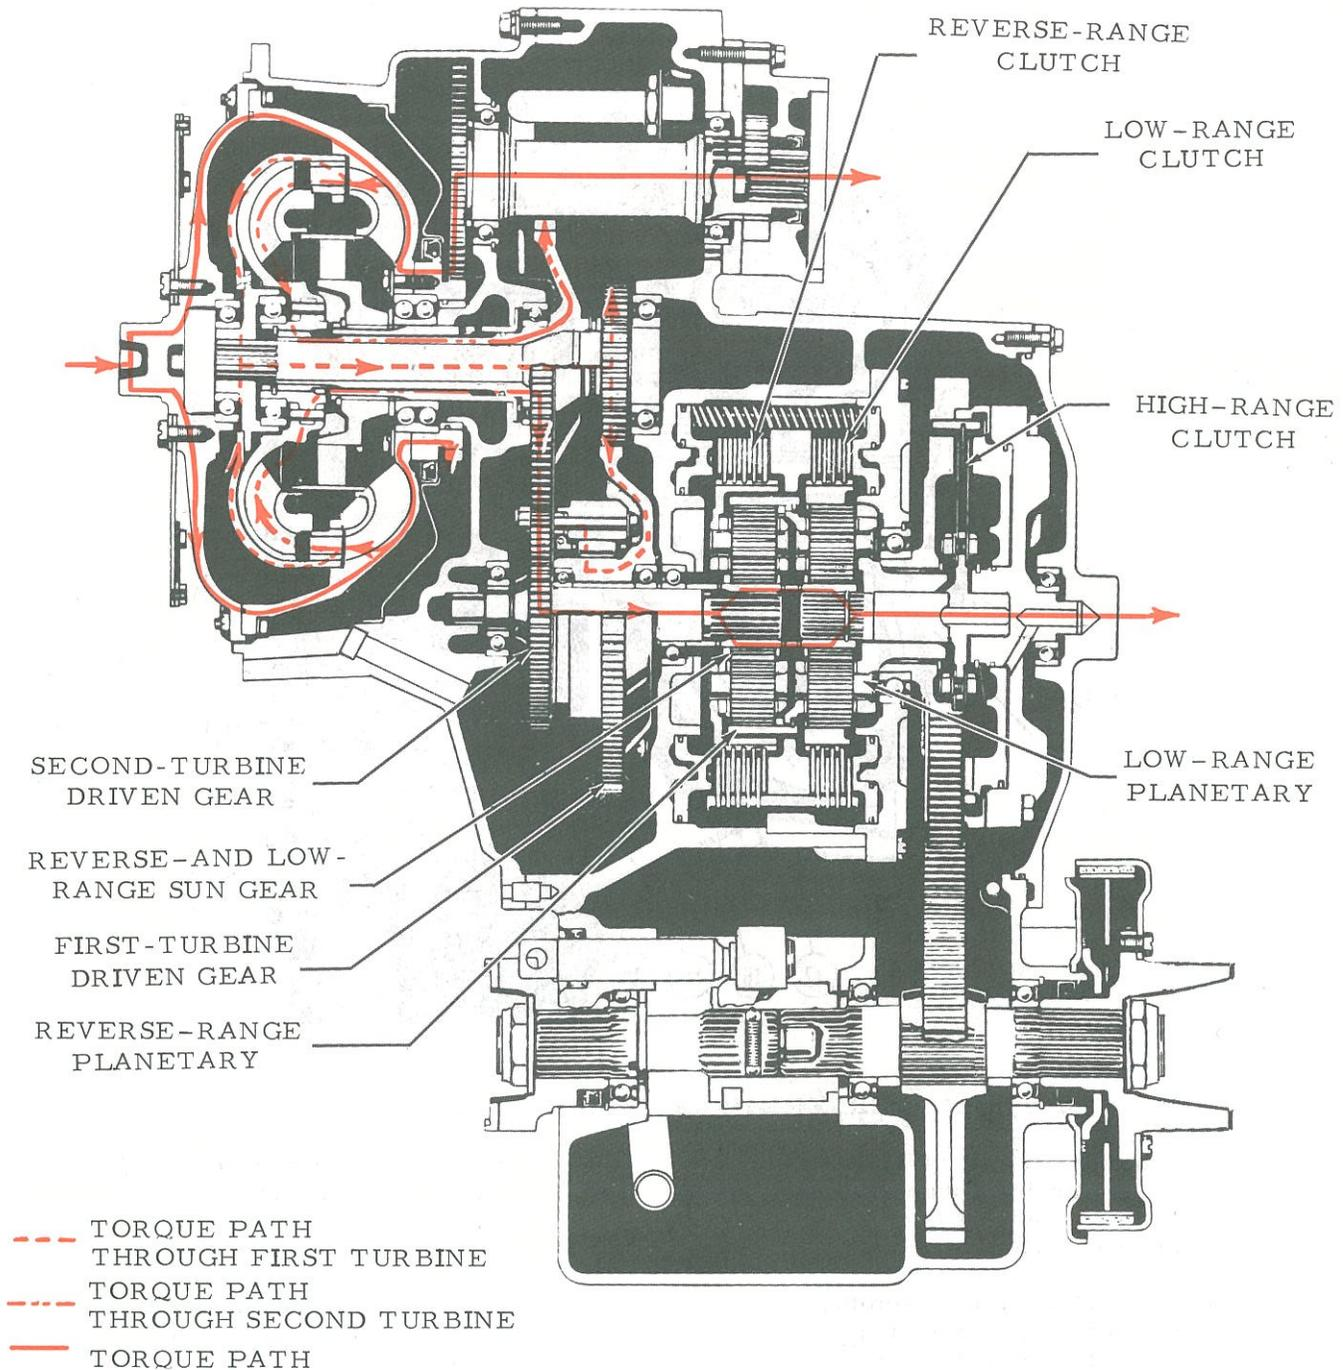

FIG. 6 NEUTRAL TORQUE PATH
CROSS-SECTION ILLUSTRATIONS. Figure 5 is a cross-section view of the twin-turbine torque converter. Figures 6 through 9 illustrate the paths through which the power flows from the engine to the transmission outputs.
2.14 NEUTRAL AND POWER TAKEOFF -- TORQUE PATH (Fig. 6)